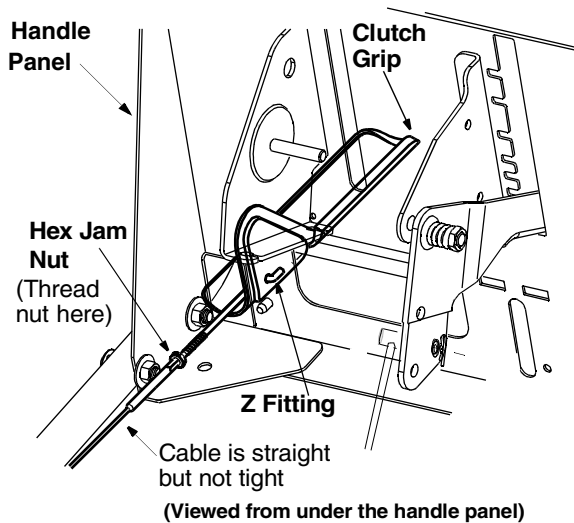

Figure 9
- If adjustment is necessary, loosen the jam nut on the traction drive cable and thread the cable in or out as necessary. See Figure 9.